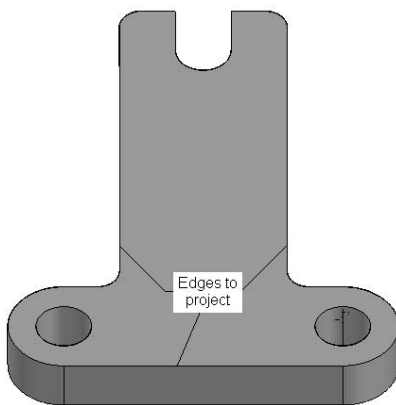

Figure 5-72 Selecting the entities to project
8. Make sure the **Include with offset** and **Include internal face loops** check boxes are cleared in this dialog box. Choose **OK** in this dialog box and then select the edges to project, as shown in Figure 5-72.